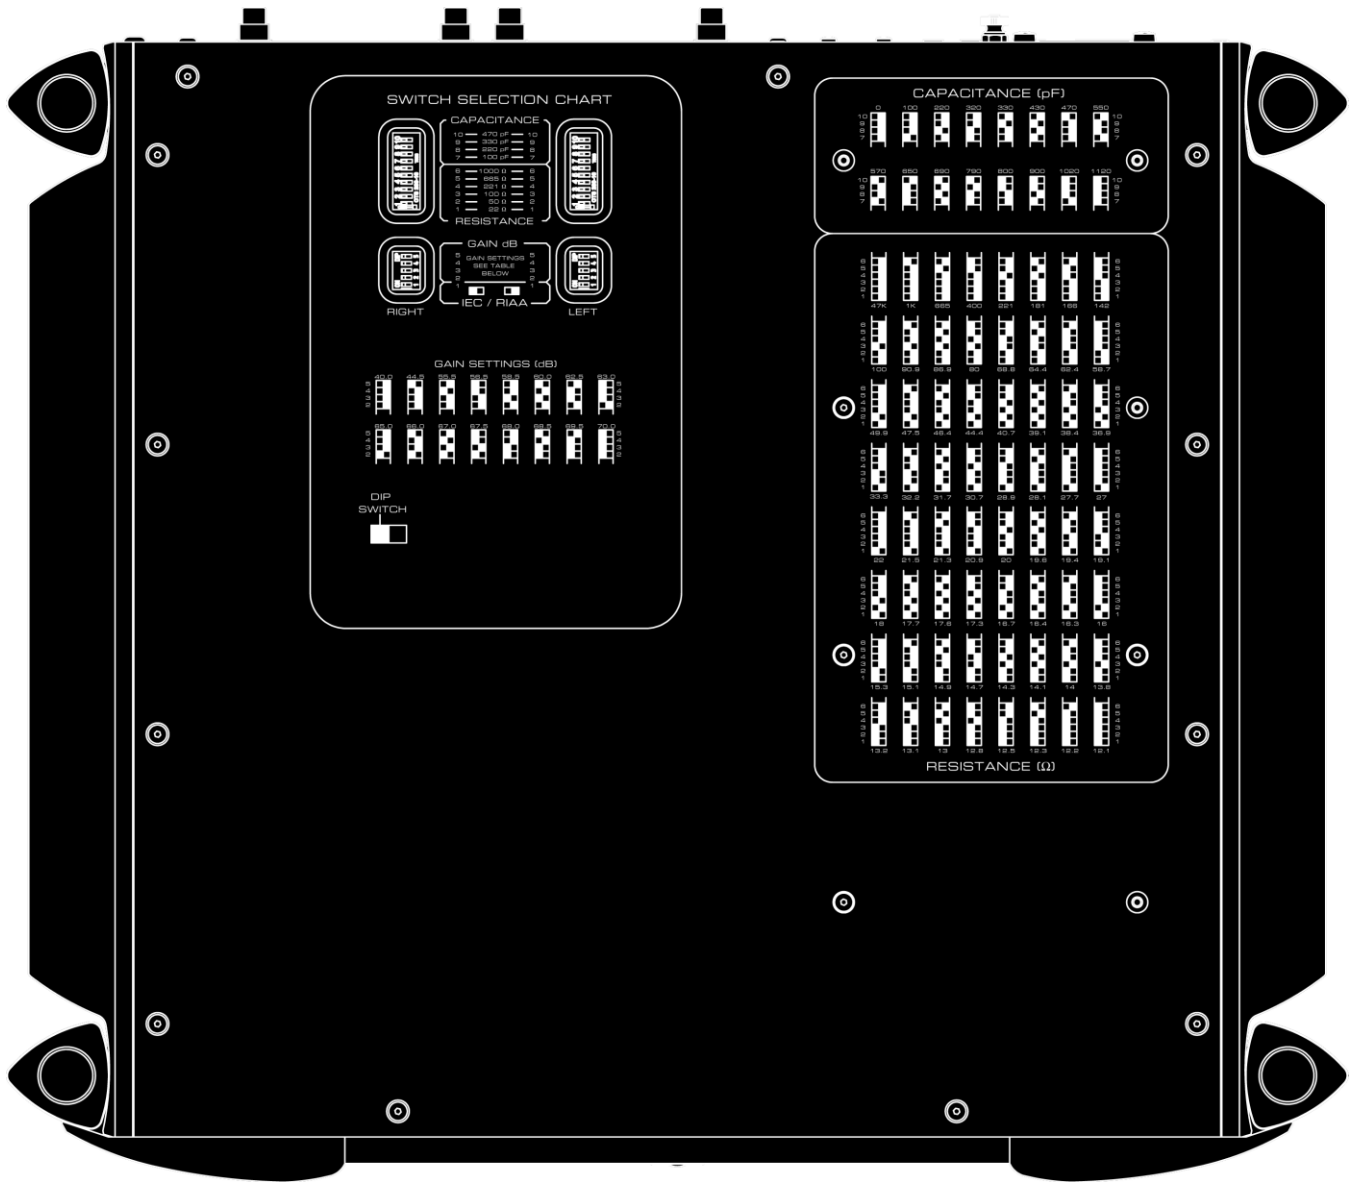

Figure 1: MOON 810LP Bottom Panel layout
Settings for cartridge resistance loading, cartridge capacitance loading, gain and equalization curve are all done using white colored DIP switches located on the **810LP's** bottom panel as shown above in figure 1. There are two (2) banks of DIP switches – The upper bank provides for the capacitance and resistance loading adjustments; the lower bank for gain level and equalization curve settings.